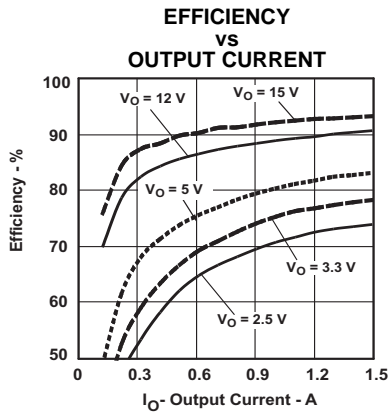
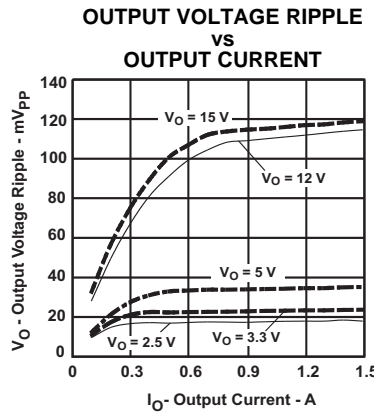
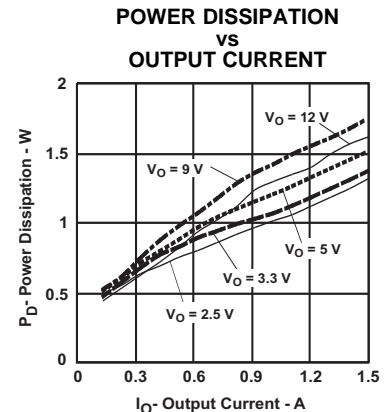

Figure 10.
Figure 11.
Figure 12.
- (1) The electrical characteristic data has been developed from actual products tested at 25° C. This data is considered typical for the converter. Applies to Figure 10, Figure 11, and Figure 12.